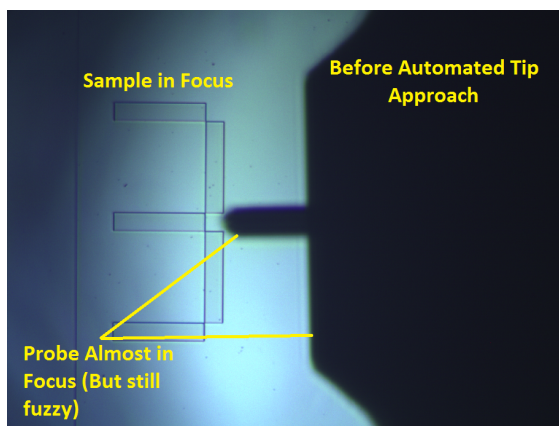

Figure 25: Approximately how focused the cantilever should be before starting an automated tip approach (laser turned off for clarity)
2. Focus the camera on the sample surface. Use the **Down** button in the **Manual Z Motor Control** section of the **Pre-Scan** tab to **slowly** lower the tip to the sample until the cantilever is just slightly out of focus (Fig. 25).